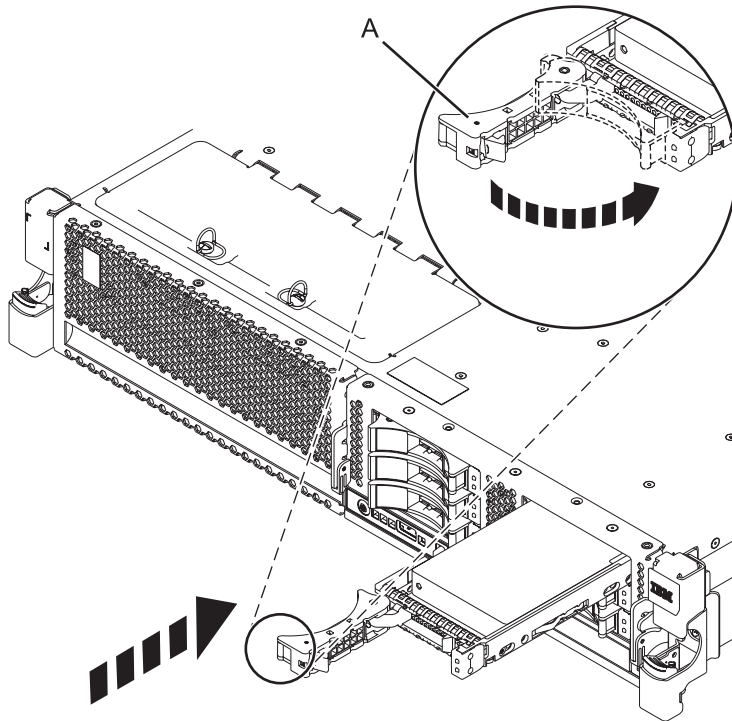

Figure 11. Installing the drive in the system
4. Slide the drive all the way into the system or expansion unit, and push the drive handle (A) in until it locks, as shown in Figure 11.